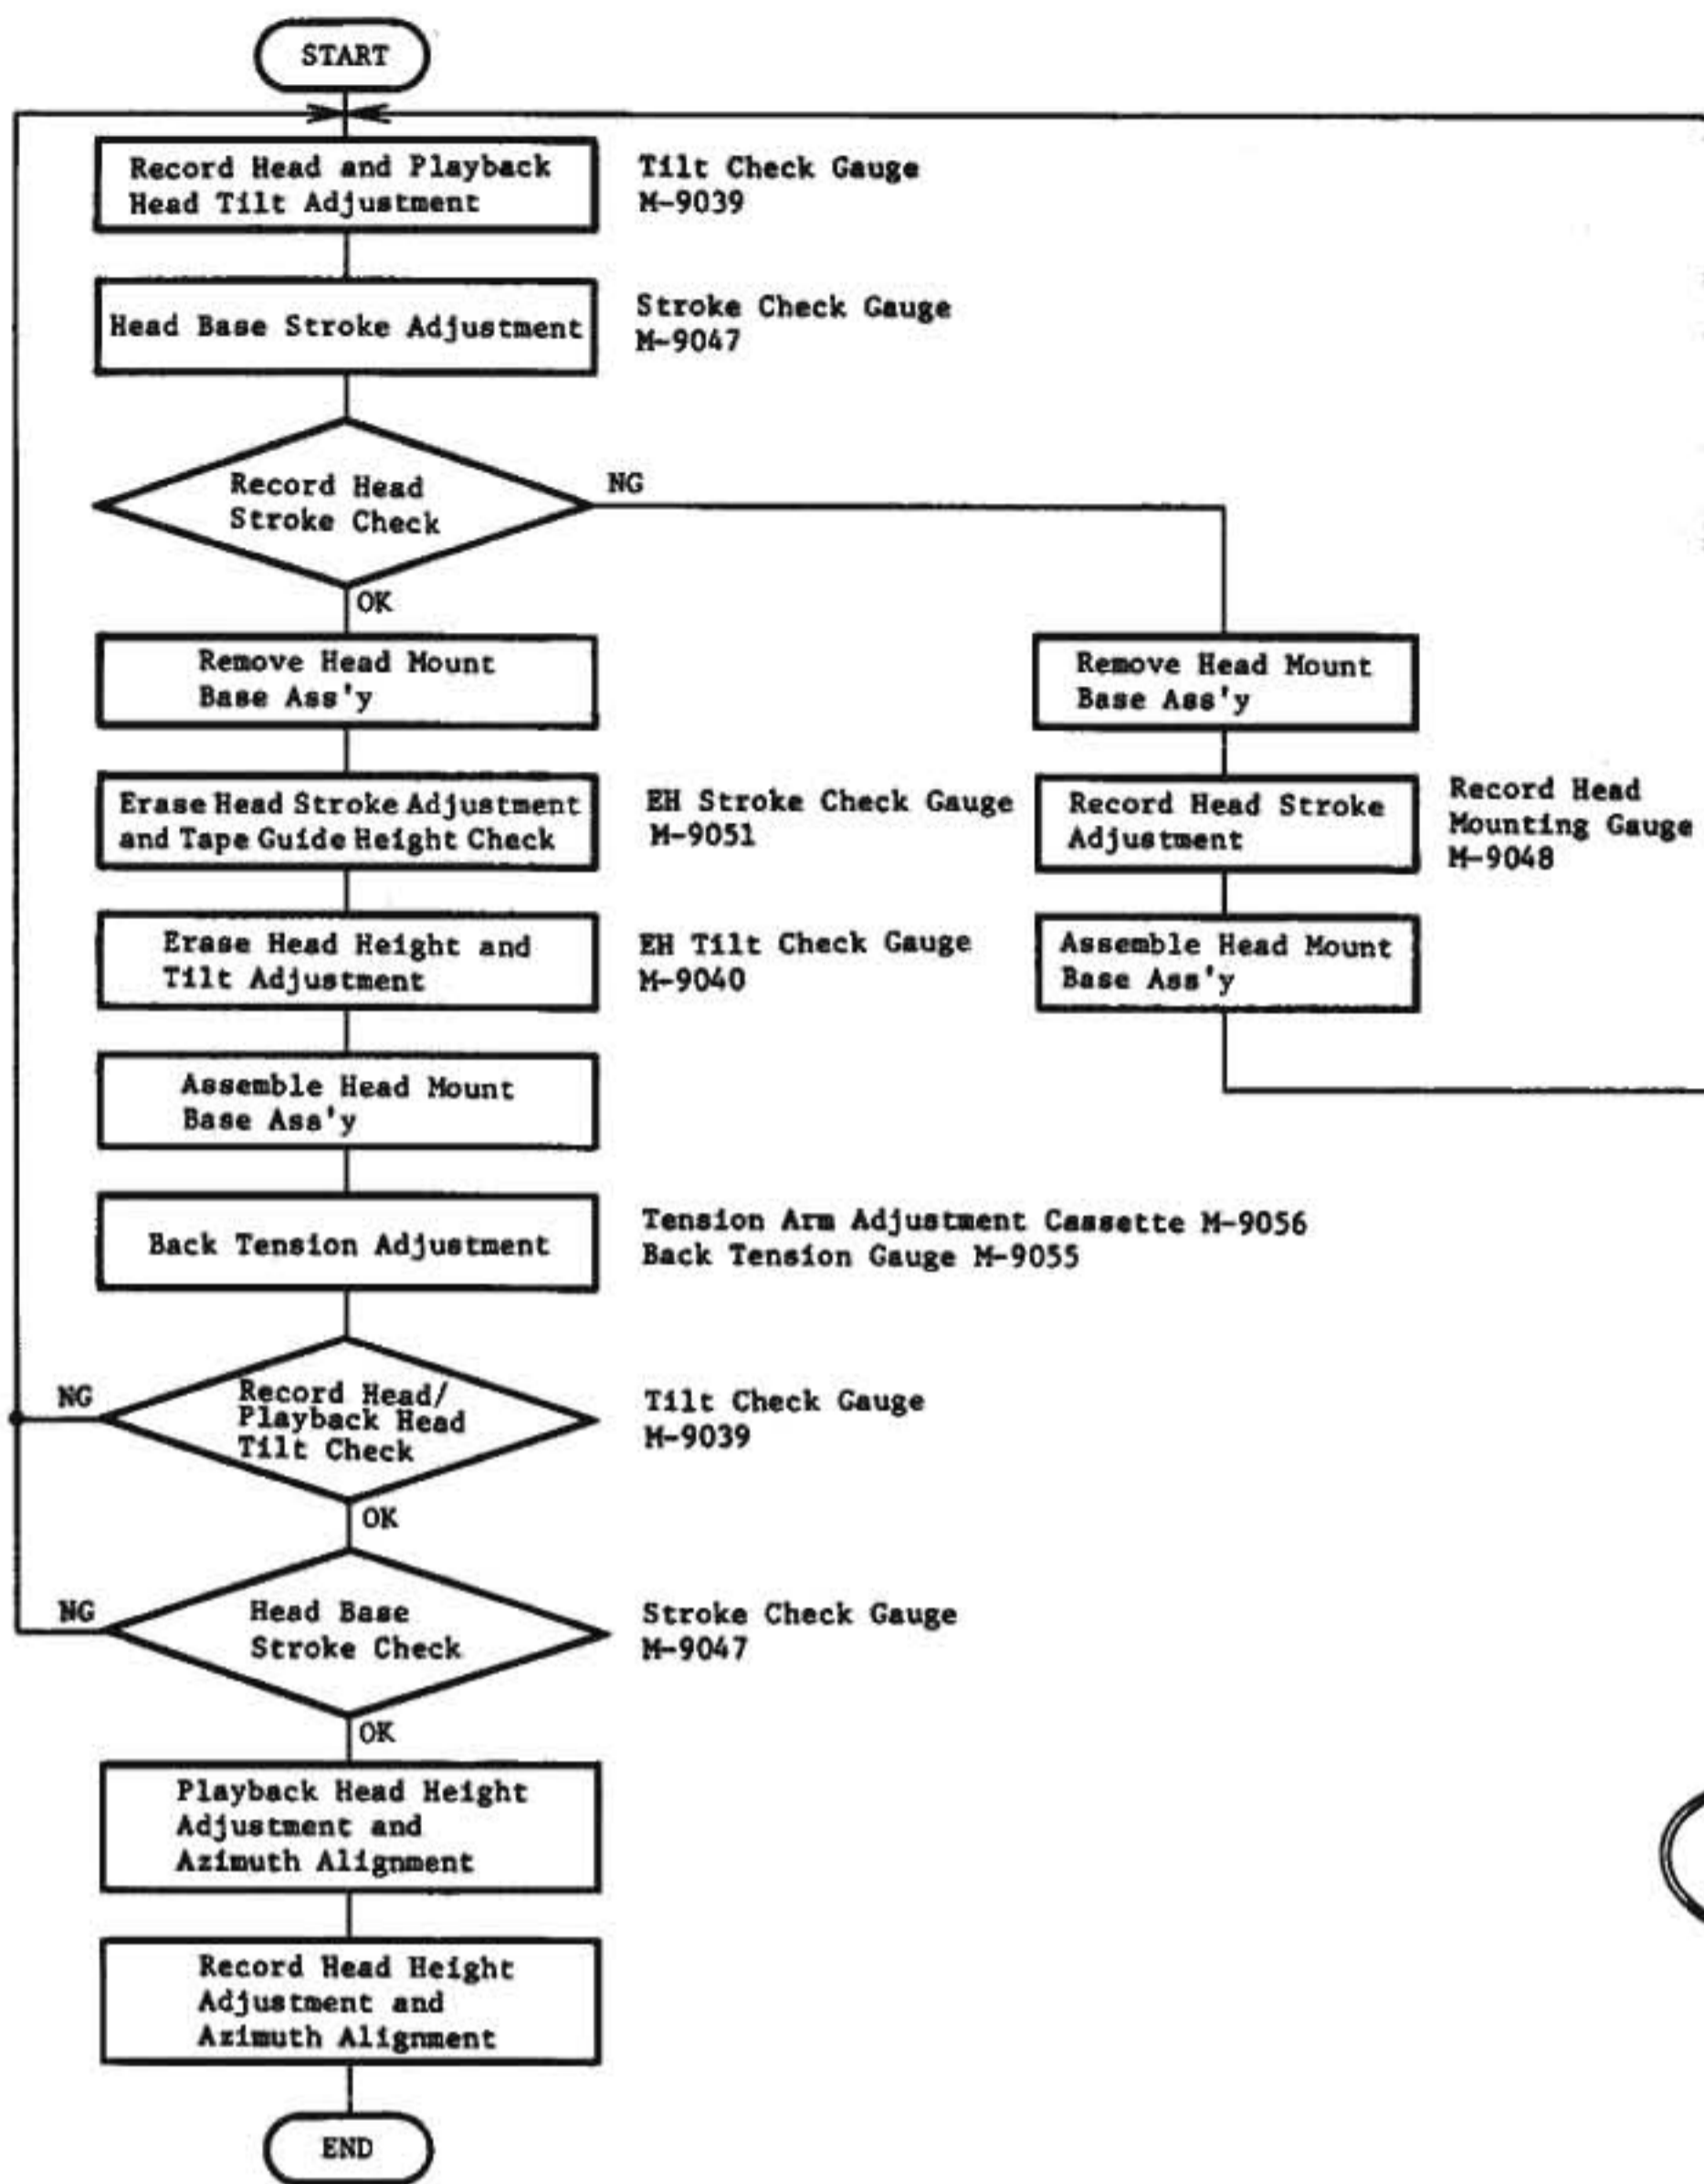
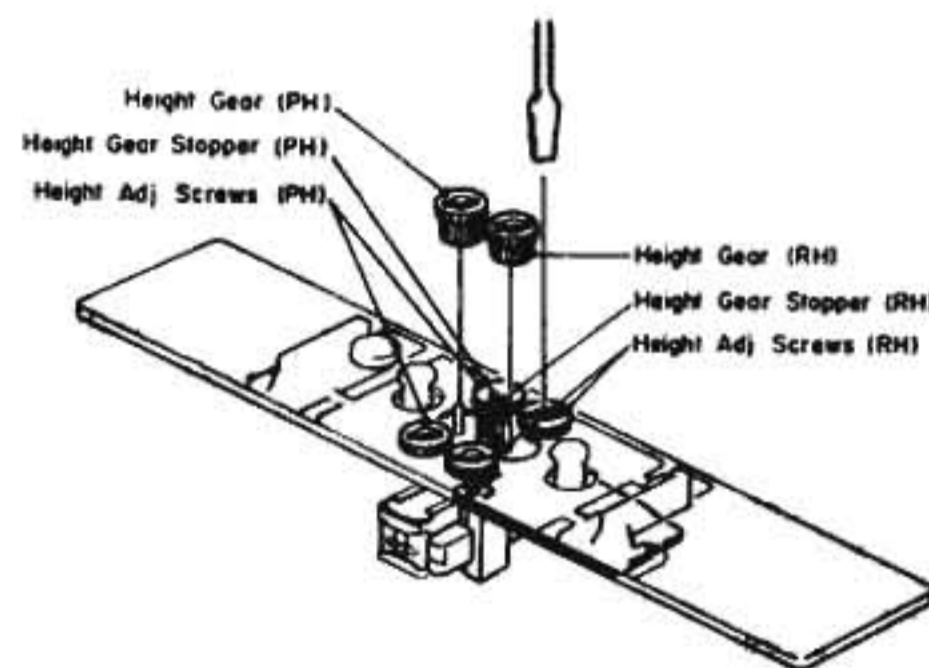

Fig. 2.2
Fig. 2.3
Note: On items 2.3 - 2.9, refer to Fig. 2.2 flow chart. Refer to Figs. 2.3 and 2.4.
- (1) Load a Tilt Check Gauge M-9039 (DA09039A) in the cassette deck.
- (2) Clip the grounding terminal of the Tilt Check Gauge with one end of the cord with clip, and the chassis of the cassette deck with the other end.
- (3) Remove both of the Height Gears.
- (4) Set the cassette deck in Play mode. Check to insure whether the Beacons Playback Head "Upper" or "Lower" and Record Head "Upper" or "Lower" are illuminating. In order not to give damages onto the head surfaces, push both of slide knobs of the Gauge to the direction of arrow marks, then return them to the original place to be in contact with record head and playback head surfaces after Play mode is securely locked.
- (5) Check to insure freedom from contact between the Gauge and pad lifter.
- (6) Beacon Playback Head "Lower" will light on when height adjustment screw (P) turned clockwise but Playback Head "Upper" when counterclockwise. Adjust so that both "Upper" and "Lower" will light on even when you move the slide knob to the direction of an arrow mark and then return it to the original place.
- (7) Same procedures will apply to the Beacons Record Head "Upper" and "Lower", except for the height adjustment screw (R).
- (8) Set the cassette deck in Stop mode and fit both of the serrated Height Gears. Then set the cassette deck again in Play mode and insure all of the 4 Beacons are illuminating. If not, (3) through (7) will have to be repeated till satisfactory results are obtained.